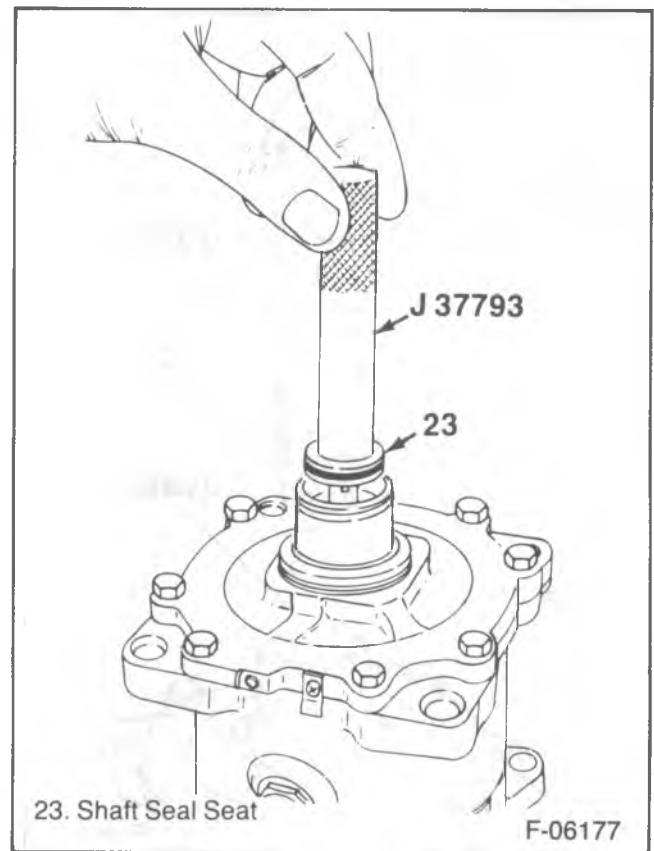

Figure 11—Removing the Shaft Seal Seat
4. Shaft seal seat (23) with J 37793 (figure 11).
5. Shaft seal seat (23) with J 37793 (figure 11).
7. Clutch spacer shims (3).